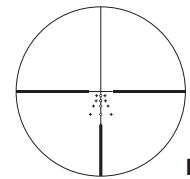
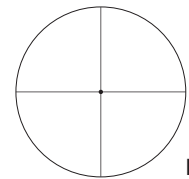

Fig. 3-1
Fig. 3-2
(1) Focusing
- 1 Look through the eyepiece with your eye positioned about 10 cm (4 in) away from the eyepiece to see the Advanced BDC reticle (Fig. 3-1) or the Fine Crosshair w/Dot reticle (Fig. 3-2). Be sure your eye is positioned with proper alignment and with proper eye relief, otherwise the view will “black out.”